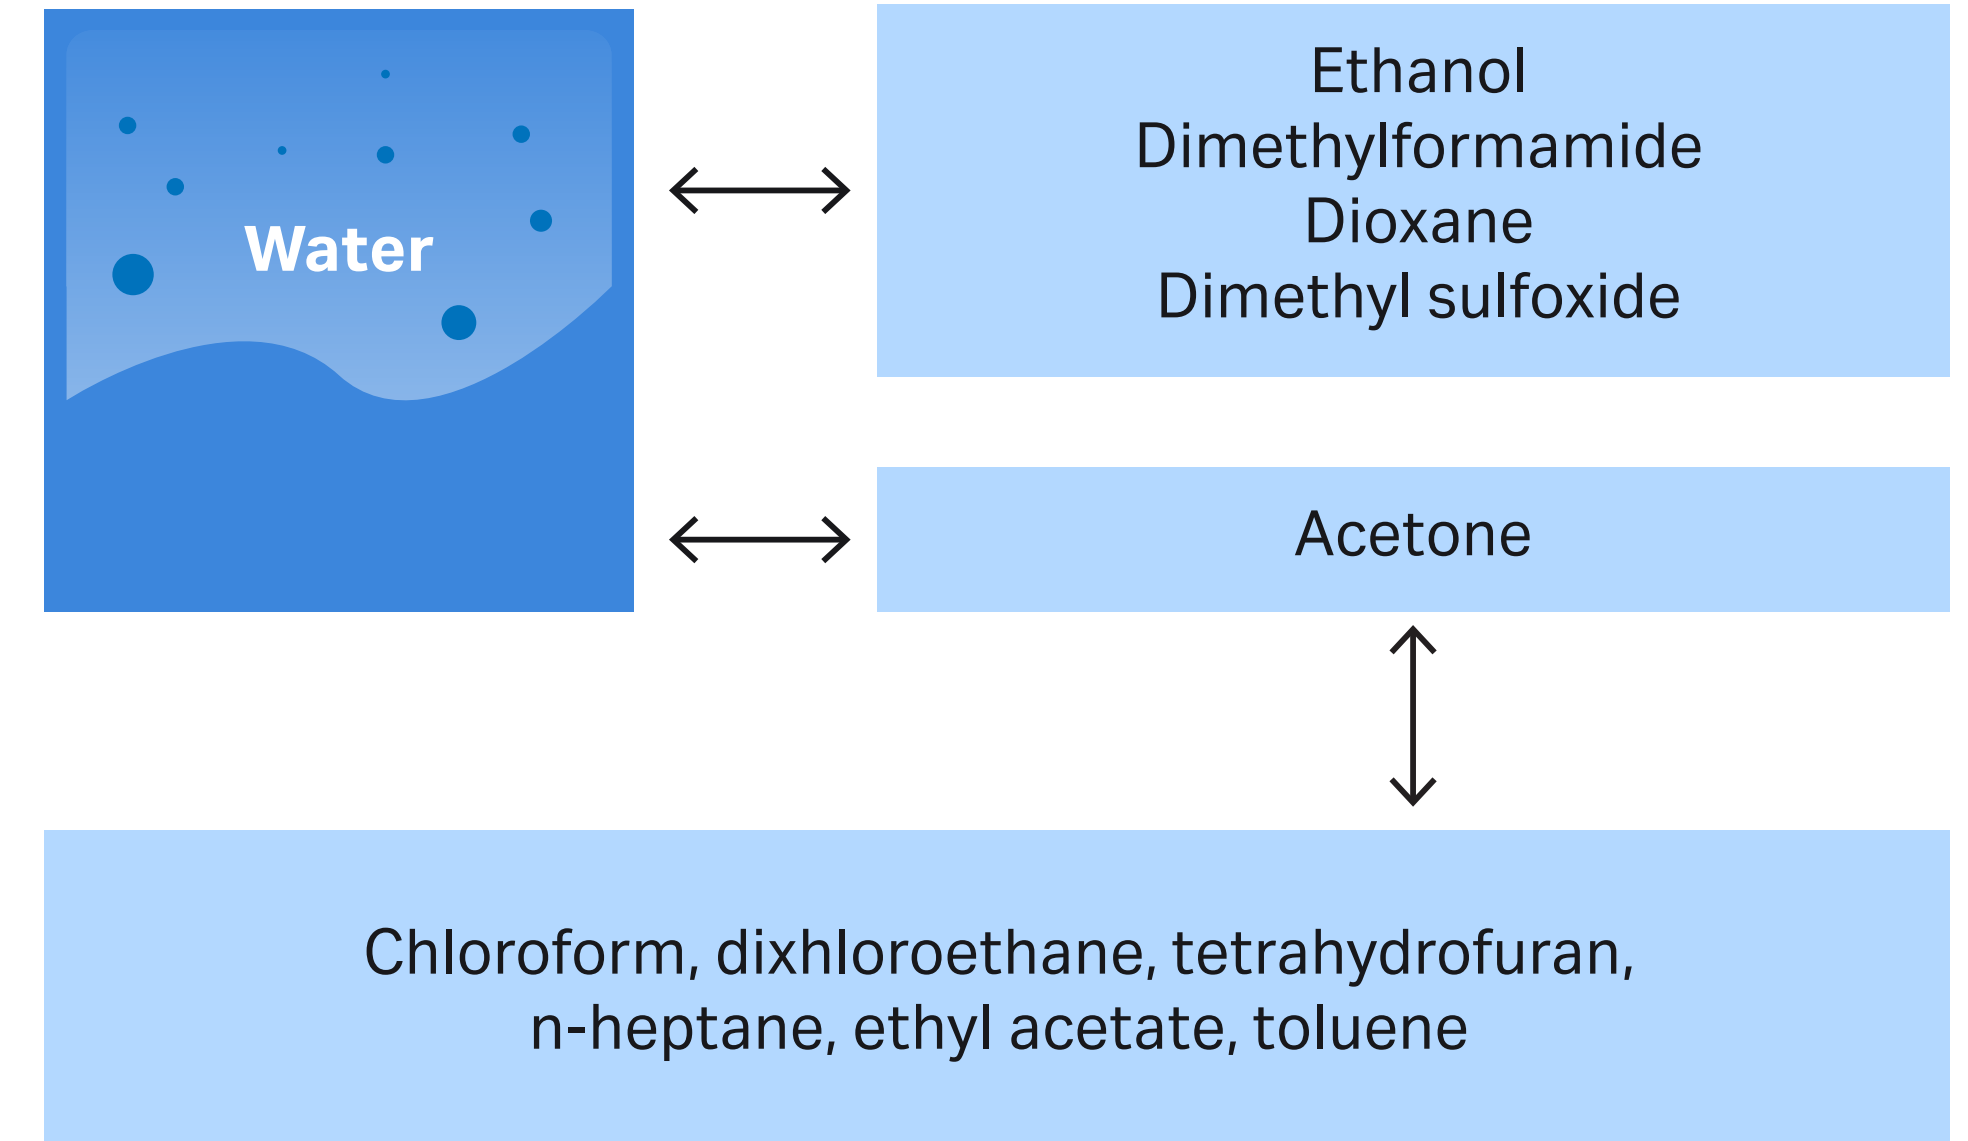

Fig A7.1. Suggested methods for transferring Sephadex LH-20 to organic solvents.
3. Finally transfer to 100% B. If A and B are not mutually miscible, make the transfer via an intermediate solvent, for example from water to chloroform via acetone, as shown in Figure A7.1.